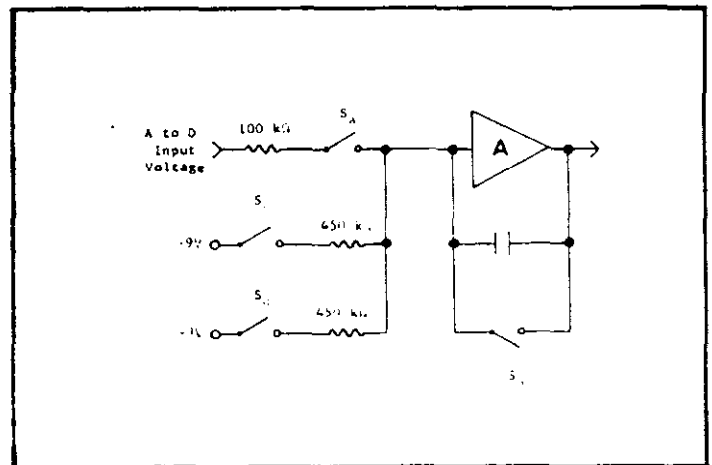

FIGURE 12. Integrator Circuit
1. Zero Period. During this period the integrator amplifier is zeroed by the closure of switch  $S_b$ . Switches  $S_a$ ,  $S_c$ , and  $S_d$  are open to prevent integrator charging as shown in Figure 12.